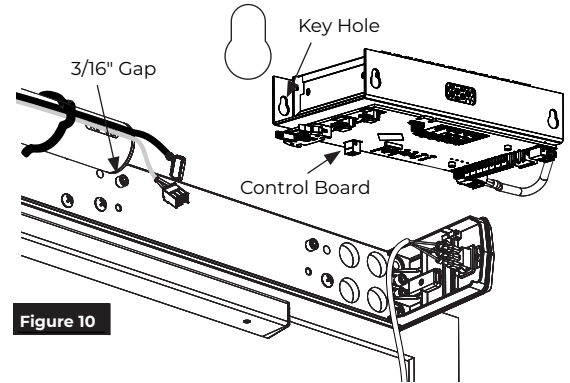

Figure 10
1. Insert two (2) screws. Leave 3/16" gap between head of screw and backplate. (Figure 10)
2. Slide power supply key holes over screws allowing narrow slots of key holes to rest on screws. (Figure 10)
**NOTE:** Narrow slots of key holes are always at top and control board is always at bottom for proper installation. (Figure 10)